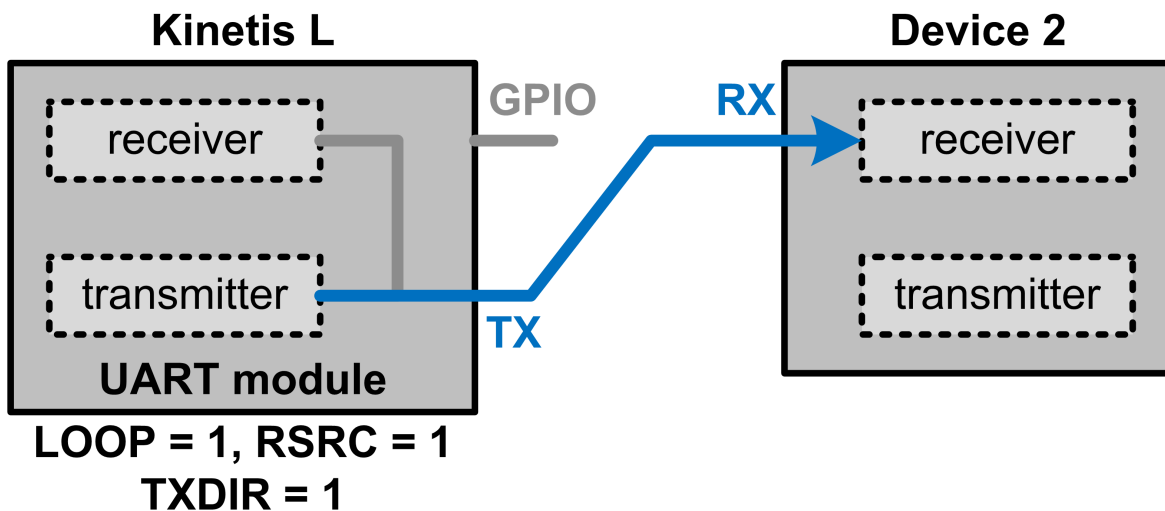

Figure 8-4. Block diagram of single wire mode (TXDIR enabled)
- When `UARTx_C3[TXDIR]`, is set then the TxD pin represents the output of the transmitter. Hence, data can be sent to an external device (Figure 8-4). The RxD pin can be used as GPIO when Single-wire mode is selected.